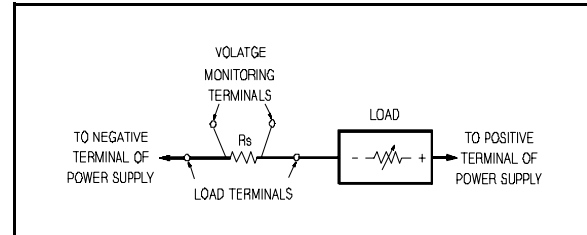

Figure A-3. Current Monitoring Resistor Connections
**Setup for All Tests.** Measure the output voltage directly at the +S and -S terminals on the rear panel; in this way the monitoring device sees the same performance as the feedback amplifier within the power supply. Failure to connect the monitoring device to the proper points shown in Figure A-3 will result in the measurement not of the power supply characteristics, but of the power supply plus the resistance of the leads between its output terminals and the point of connection.
**Current Monitoring Resistor  $R_s$ .** To eliminate output-current measurement error caused by voltage drops in the leads and connections, connect the current monitoring (sampling) resistor between -OUT and the load as a four-terminal device. Figure A-3 shows correct connections. Connect the current monitoring test leads inside the load lead connections directly at the monitoring resistor element. Select a resistor with stable characteristics and lower temperature coefficient (see Table A-1).